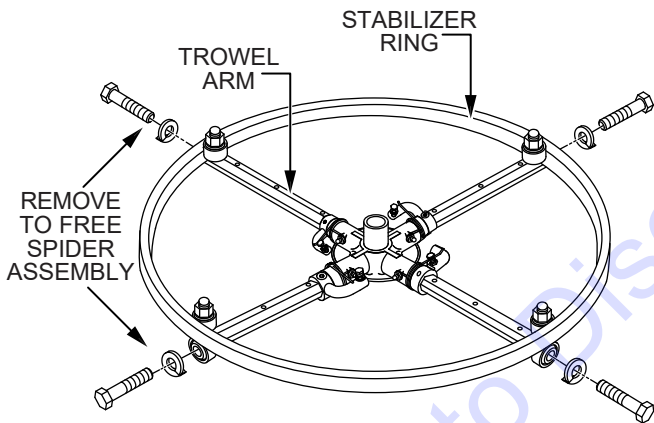

Figure 49. Stabilizer Ring
1. If the trowel is equipped with an outer stabilizer ring (Figure 49), remove the four bolts at the end of each trowel arm.